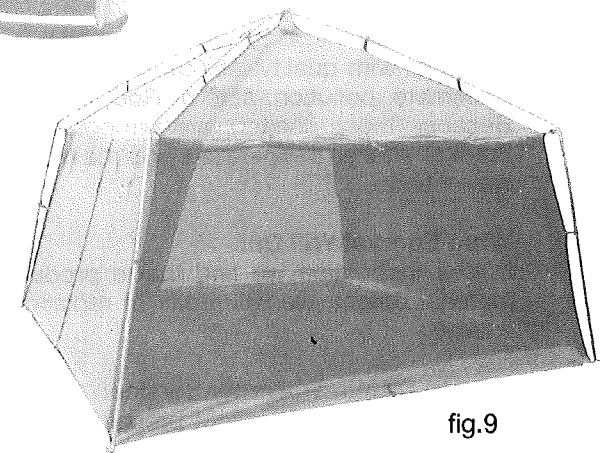

fig.9
10. Tuck the ground skirts under the walls and into the tent. Your Northern Breeze is ready. See fig.9.